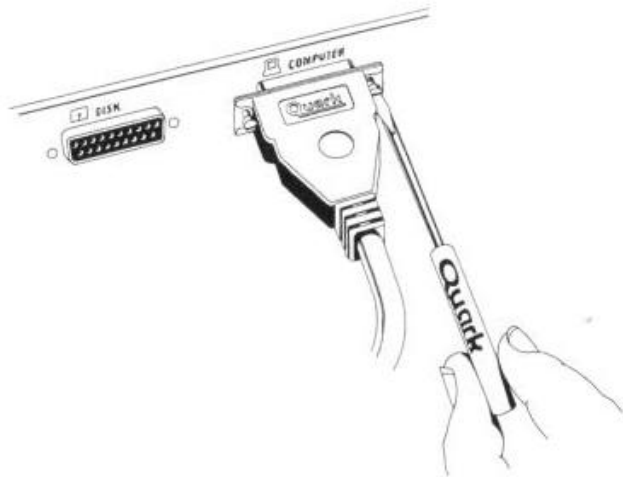

Figure 2-3. Connecting Quark Cable to QC Hard Disk
4. Connect the other end of the Quark cable to the nineteen-pin "D"-shaped socket labeled "Computer" on the back of the QC hard disk, and tighten the screws as illustrated in Figure 2-3.